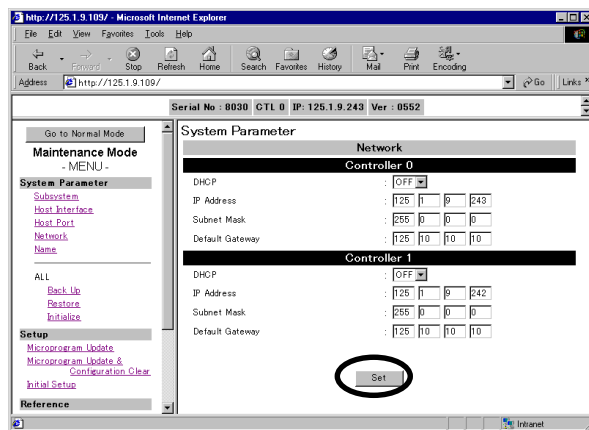

Figure 5.6 WEB Screen (5)
6. Please click [Set] button after setting completion. (see figure 5.6)